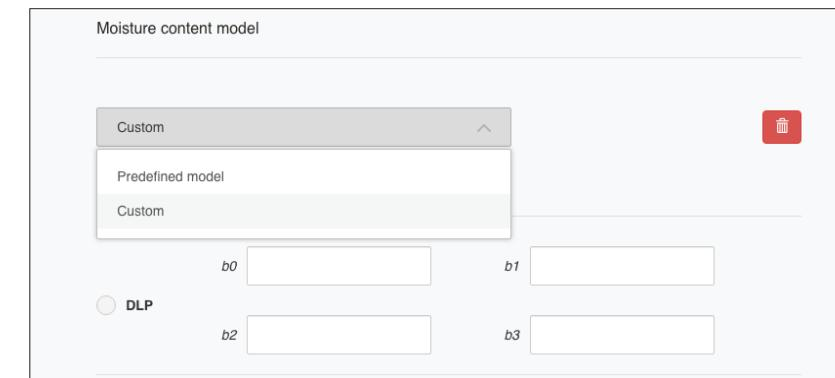

Figure 18 Custom model type and coefficients
- b. Click the radio button beside the model type identified on the Custom Isotherm Model Coefficients sheet (Figure 18).